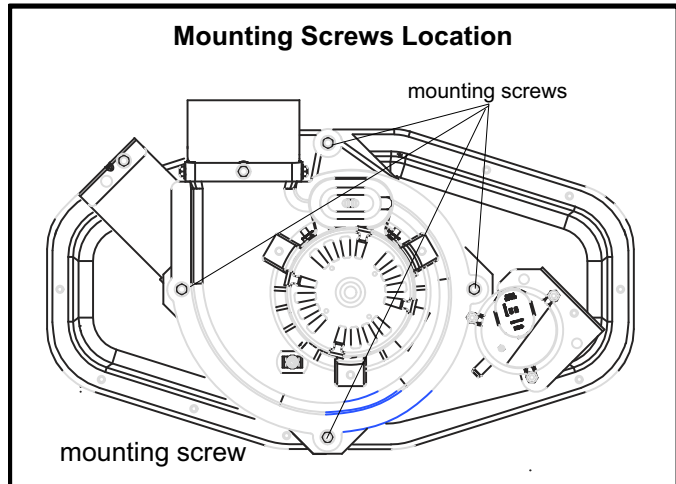

FIGURE 14
- 1 - Remove the four mounting screws (figure 14) which secure the combustion air inducer / pressure switch assembly to the orifice plate. Lift and rotate the assembly 90 degrees clockwise or counter clockwise to either the 3 o'clock position or to 9 o'clock position and re-secure with four screws. Gasket should be left in place.